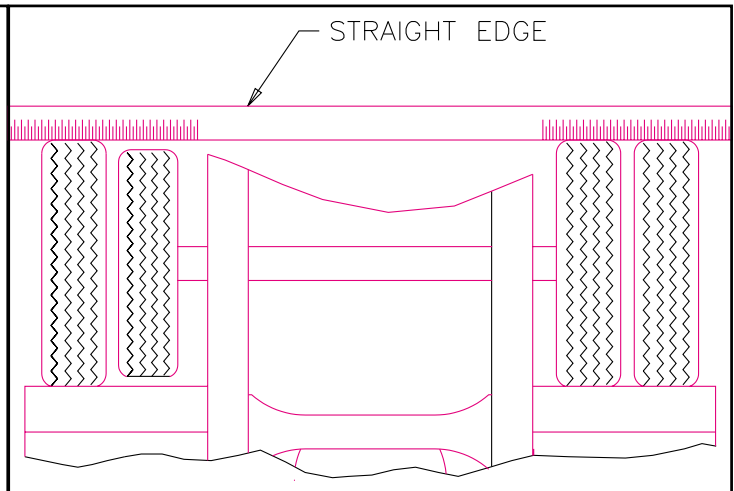

Figure 4-17 Straight Edge Method
- b. **Straight Edge or String Method:** (This method cannot be used if tire and wheel assemblies are not mounted on the axle.) Jack trailer up until the wheels are off of the ground. Hold a straight edge against the tires of both ends of an axle. A gap at one tire indicates a smaller tire. A maximum of 1/8" gap is allowed (See Figure 4-17).